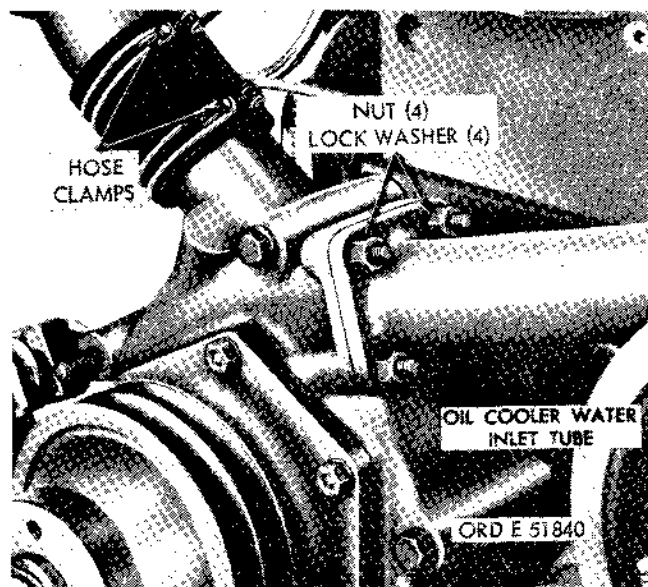
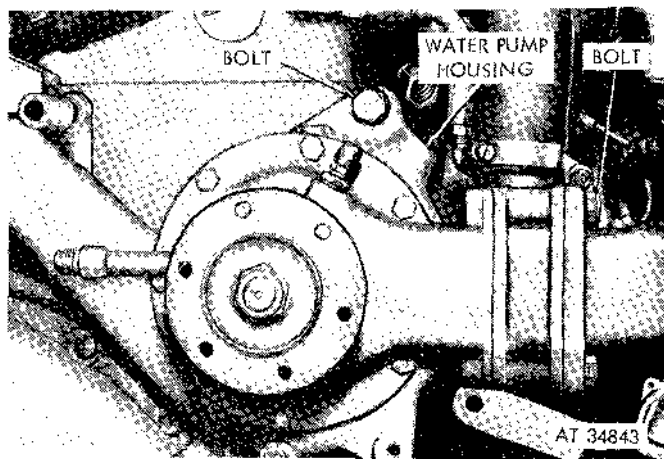

Figure 2-139. Disconnecting thermostat housing-to-coolant pump hose and oil cooler inlet tube—multifuel models.
Figure 2-140. Water pump—diesel engine.
(b) Remove the four nuts and lockwashers securing the oil cooler inlet tube to the coolant pump (fig. 2-139).
(1) Remove the radiator (para 2-110).
(2) Remove the fan and drive belts (para 2-111).
(3) Remove the fan pulley and disconnect the water pump lines.
(4) Remove the two bolts securing the water pump to the water manifold (fig. 2-139).
(5) Remove the two bolts securing the filter.
(6) Remove the bolt securing the belt tension bracket.
(7) Remove the two bolts securing the water pump housing to the engine, and remove the water pump (fig. 2-140).
(1) Position the water pump housing to the engine, and secure it with two bolts (fig. 2-140).
(2) Position the belt tension bracket, and install the bolt.
(3) Install the fuel filter, and secure it with two bolts.
(4) Secure the water pump to the water manifold with two bolts.
(5) Connect the water pump lines, and install the fan pulley.
(6) Install the fan and drive belts (para 2-111).
(7) Install the radiator (para 2-110).
(3) Remove the four plain nuts and lockwashers securing the oil cooler water inlet tube to the water pump assembly. Separate the flange of the inlet tube from the pump (fig. 2-140).